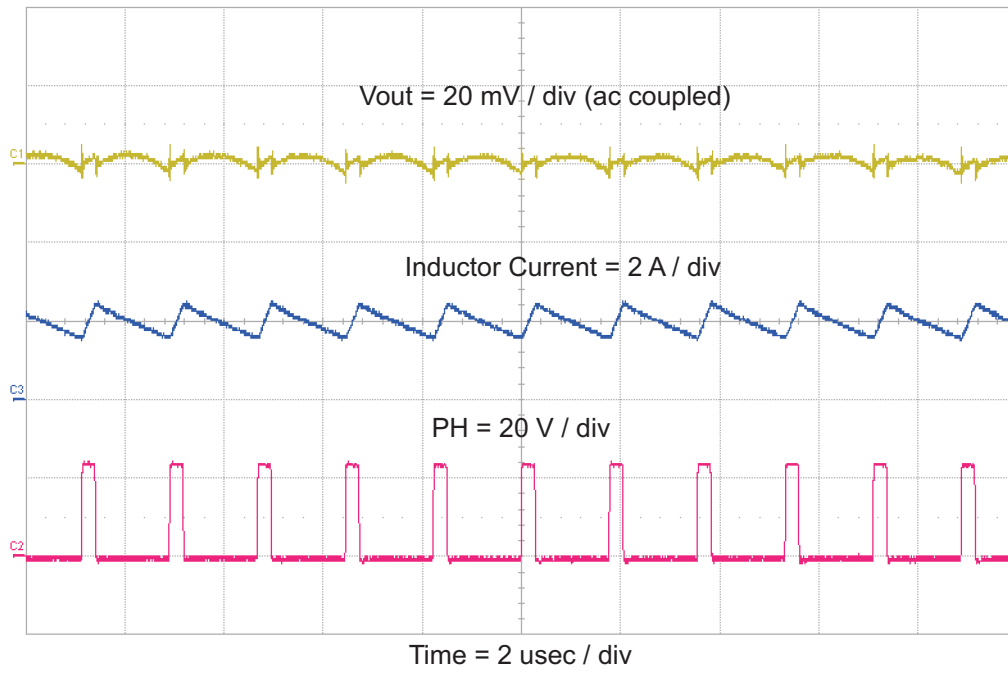
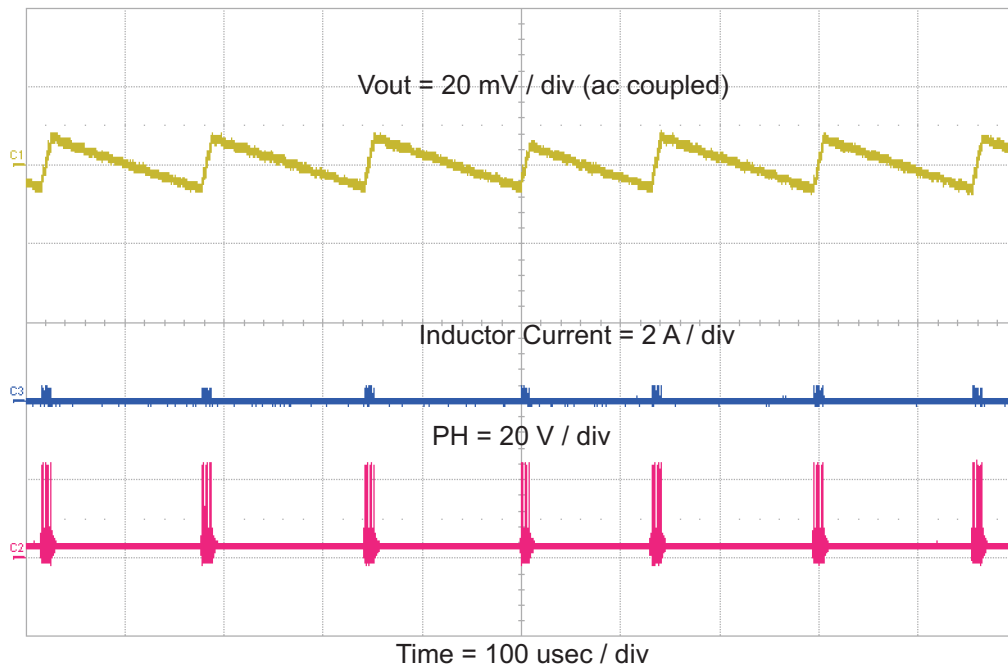

Figure 6. Output Ripple Voltage in Normal PWM Operation
Figure 7. Output Ripple Voltage in Eco-mode™ Operation
There are trade offs involved with Eco-mode™ operation. First, during Eco-mode™ operation the output ripple voltage is increased. During sleep time, the device is not switching and the output is allowed to decay until the COMP pin voltage rises above the clamp voltage. Compare the output ripple voltage during continuous conduction operation in Figure 6 to the output ripple in Eco-mode™ operation in Figure 7. For both figures, the top trace is V_{OUT} , the middle trace is inductor current and the bottom trace is the switching node (PH) voltage.